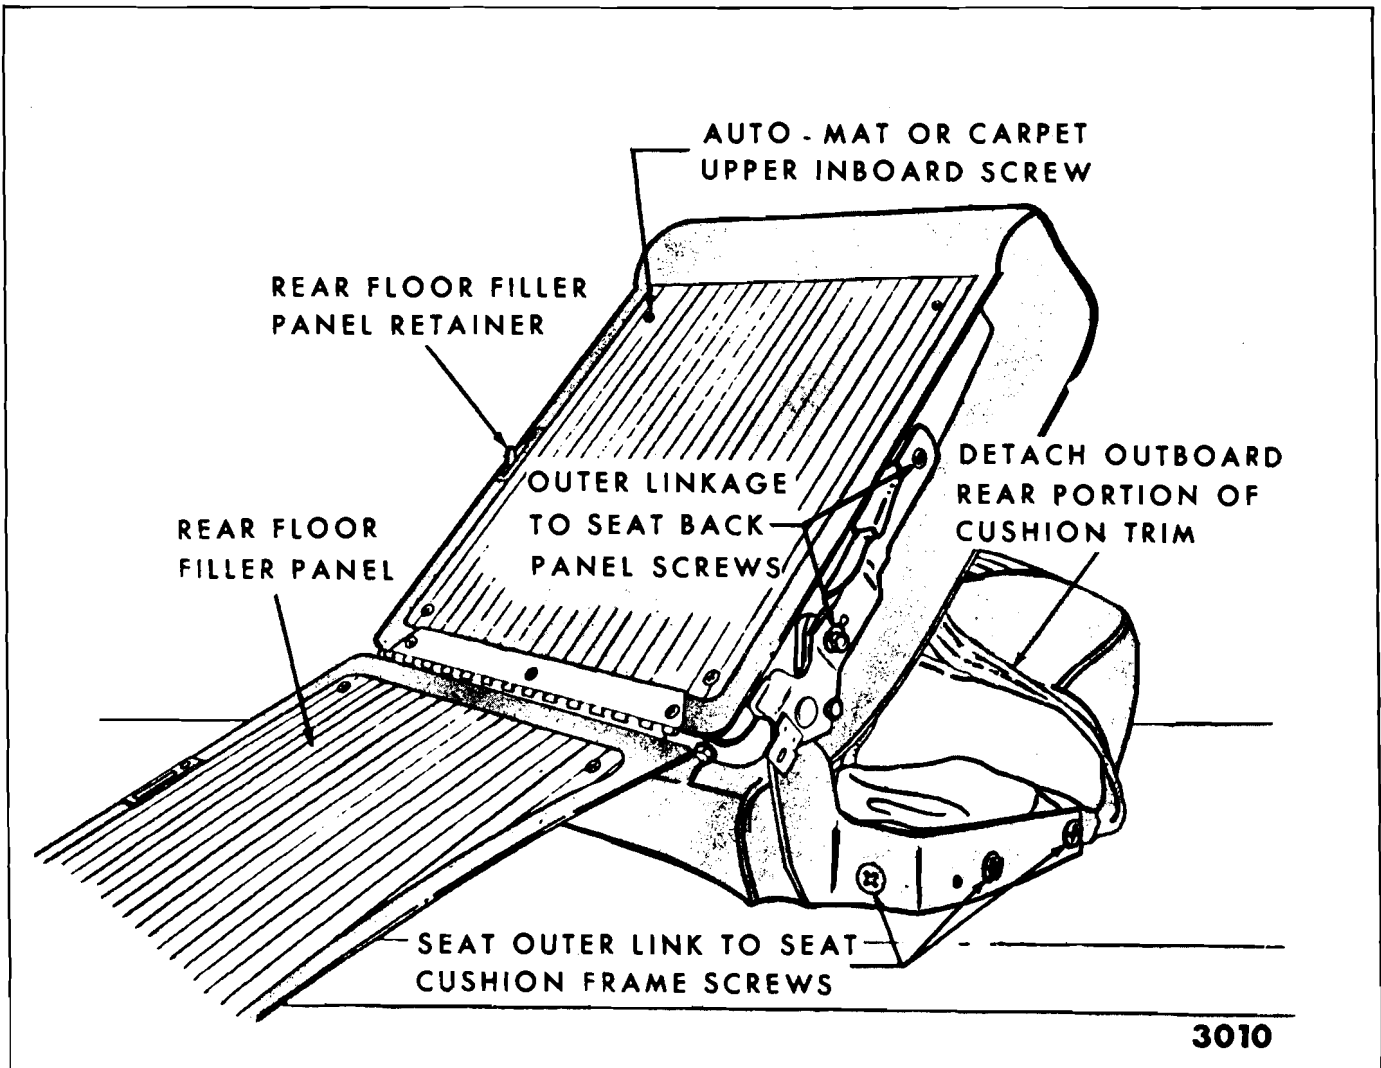

Fig. 15-87—Folding Second Seat Cushion Assembly (Right or Left Side) - Vista Cruiser and Sport Wagon Styles
portion of trim sufficiently to remove three screws securing seat outer link to cushion frame. (Fig. 15-87).
NOTE: If seat back trim does not readily disengage from seat back panel, fold rear floor filler panel down and remove upper inboard screw securing automat or carpet (Fig. 15-87). Then remove seat back trim assembly.
3. Remove hog rings and detach rear portion of trim sufficiently to remove three screws securing outer linkage to seat cushion frame. (See Fig. 15-87).
4. Remove outer linkage-to-seat back panel attaching screws (See Fig. 15-87); then, remove linkage and seat back catch from seat.
2. Remove outer linkage-to-seat back panel attaching screws (See Fig. 15-87).
3. Install lock handle attaching screw; then, install outer linkage to seat back panel attaching screws (Fig. 15-87).